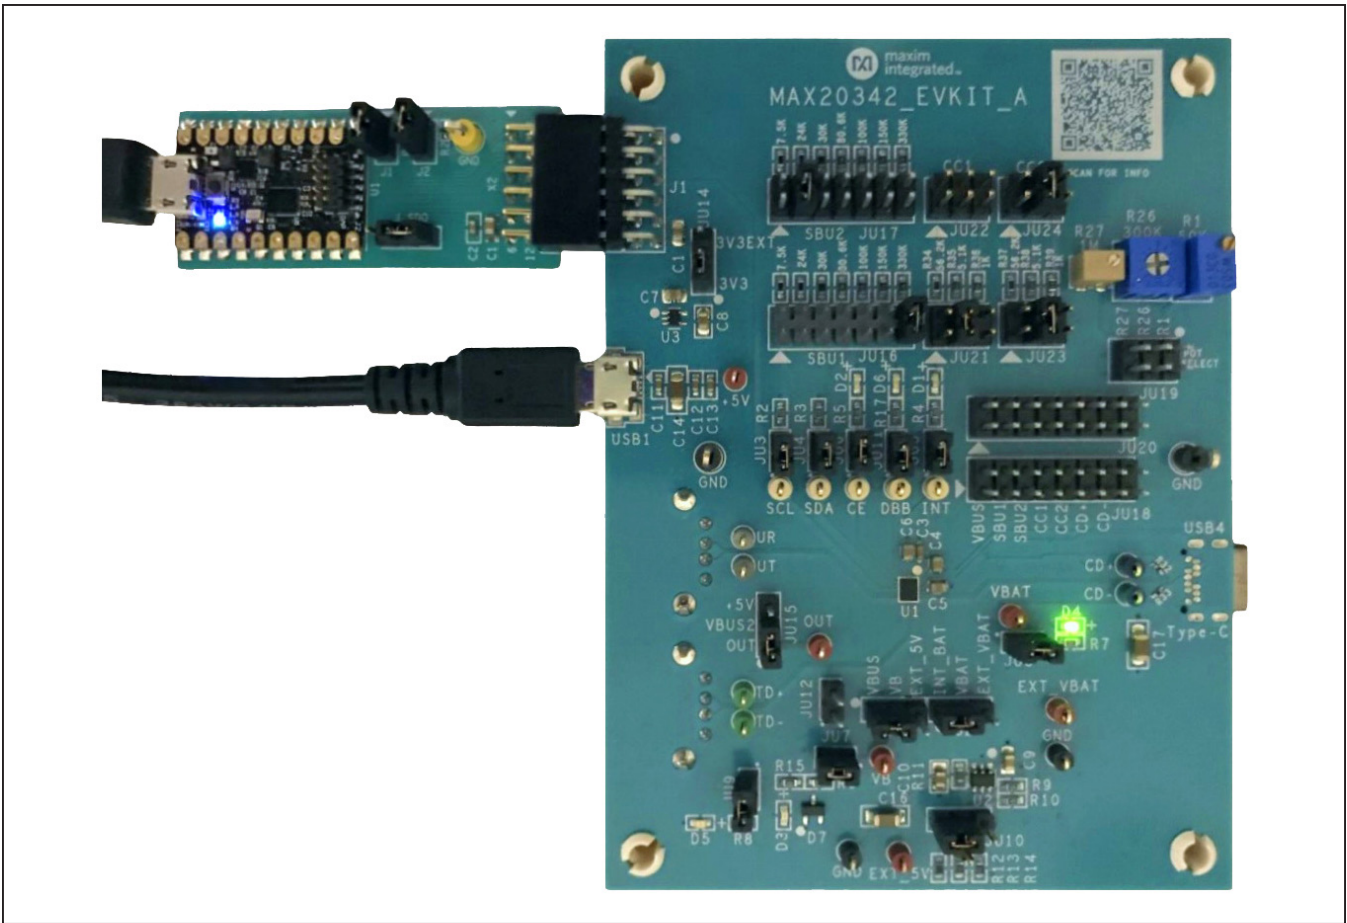

Figure 8. Using the MAXPICO2PMB Adapter Board with MAX20342EVKIT
- 3) Connect the MAXPICO2PMB adapter board to the MAX20342EVKIT through the Pmod connector (see Figure 8).